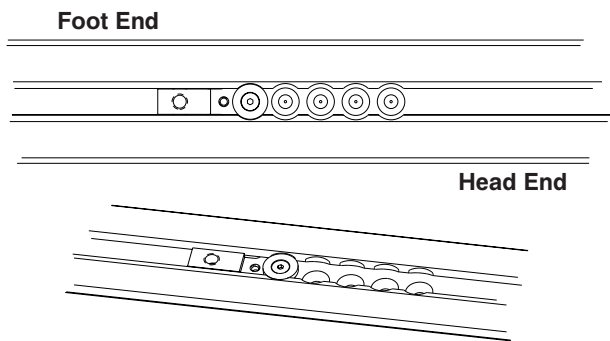
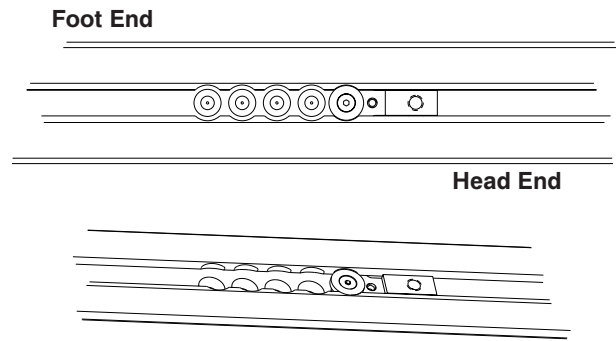

Figure 13: Most Wheel Clearance
Figure 14: Flipping the Bracket
31. Locate the first floor plate attachment bracket (Figure 13) location (near the foot end). This location provides the most wheel clearance.
- Flipping the bracket as shown in Figure 14 moves the mounting location an additional two inches toward the head end.
- Figure 13 shows the location for the most wheel clearance from the bumper. Figure 14 shows the location for the least wheel clearance from the bumper and represents a 8 in (20.3 cm) shift in from the first location. Select the location that provides the appropriate wheel clearance for your set up.